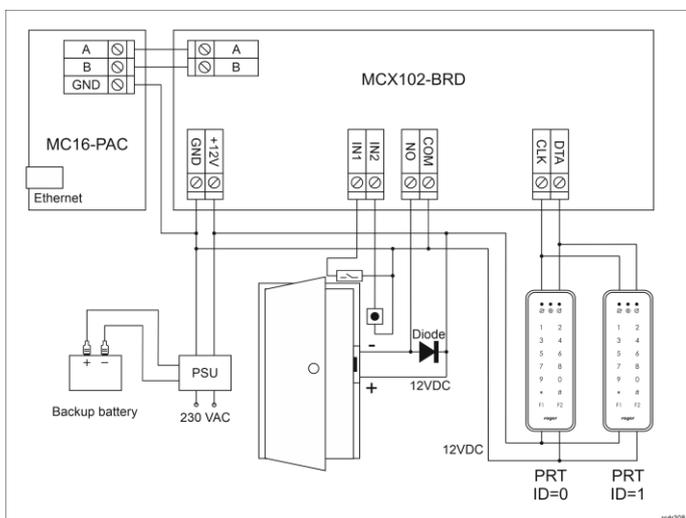

Fig. 5 Typical door control with PRT readers
4. Enter unoccupied RS485 address in range of 100-115, enable Wiegand or PRT terminals, configure input types (e.g. NC for IN1 according to fig. 5) and other settings according to requirements of specific installation.